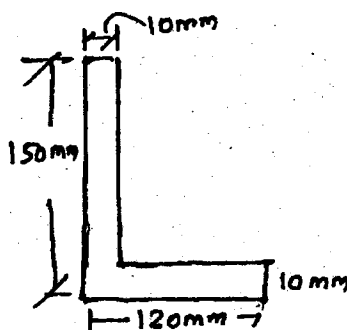

Fig. 7
- (b) For the angle section shown in Fig. 7. Find the moment of Inertia about its horizontal centroidal axes.